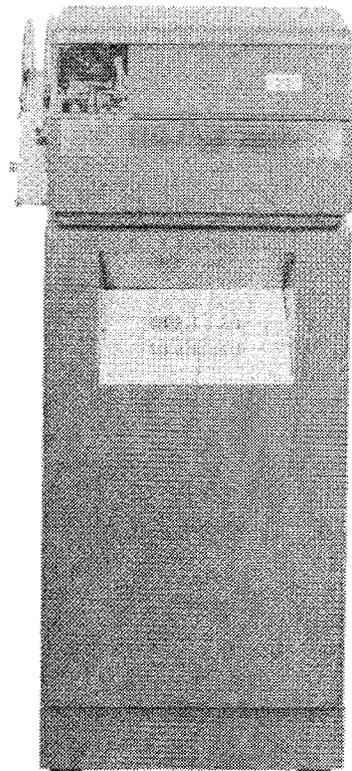
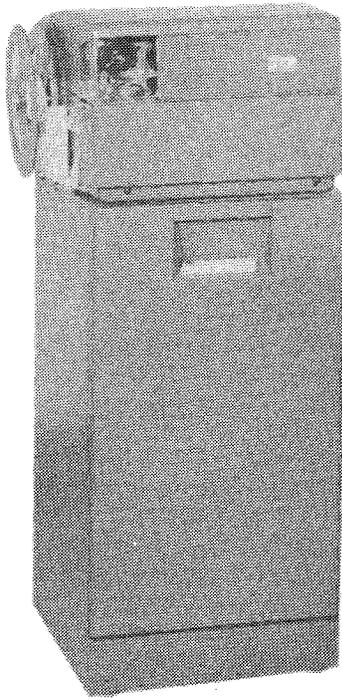

Figure 1 - 37 ROTR Primary Receiver with DAS804R-Type Attendant Set
Figure 2 - 37 ROTR Auxiliary Receiver
1.02 The ROTR Teletypewriter is capable of operating as a primary receiver (Figure 1) in terminate only station arrangements or in the 86B2 originate/terminate station, or as an auxiliary receiver (Figure 2). To be used in a terminate-only station, the ROTR must interface with a Data Auxiliary Set (DAS) 820-type station controller equipped with a 108A, 108E, 109A or 109E Data Set, used in conjunction with the proper DAS 804R-Type Attendant Set. To be used as an auxiliary receiver, the ROTR must interface with the primary receiver. The station application and station arrangement determines the type of station controller, attendant set and specific cable assemblies required.